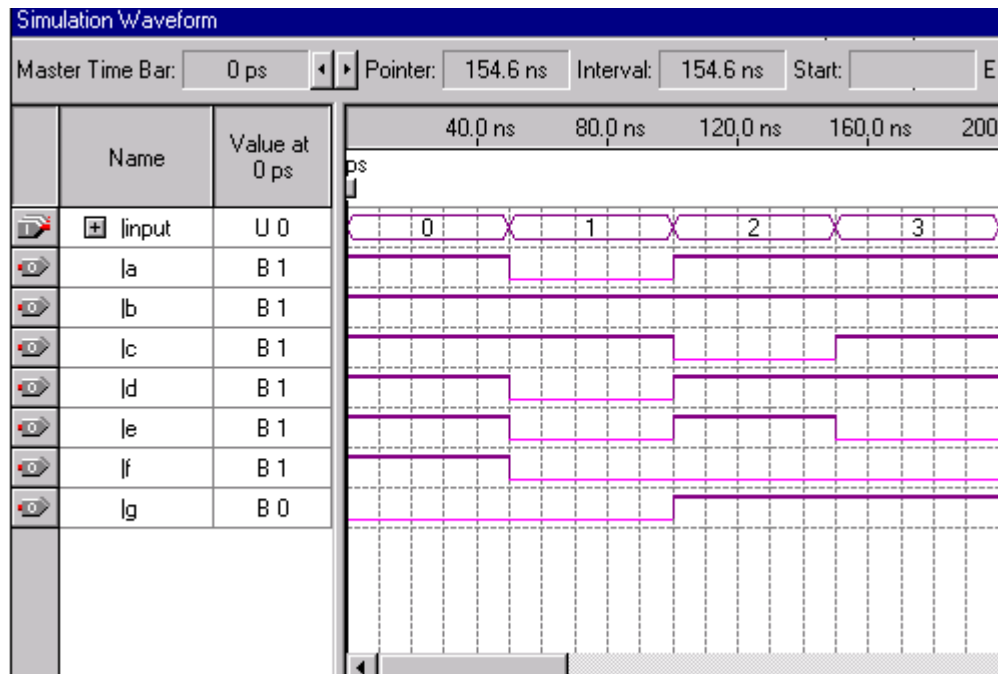

Figure 3-6.
6. Check to see if you get the same results shown in Figure 3-6.